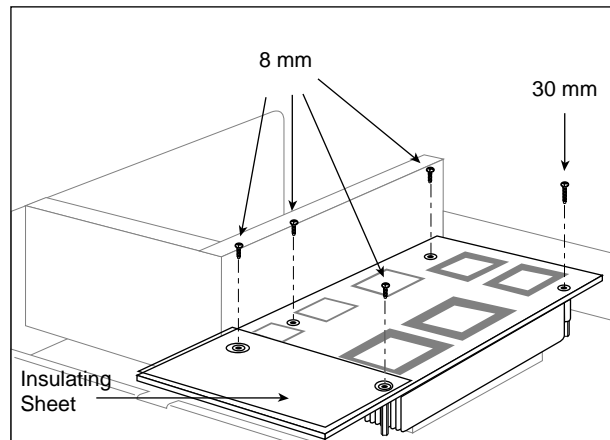

Figure 2-19 Installing the R8000 CPU Module Screws and Insulating Sheet
8. Place the insulating sheet on the R8000 CPU module as indicated in Figure 2-19. Position the sheet along the rear edge of the CPU module, and align it with the rear-most two screw holes.
9. Install the five Phillips screws that attach the R8000 CPU module to the standoffs, as shown in Figure 2-19. Note the location of the long, 30 mm screw. Finger-tighten the screws first, then tighten them snugly using the screwdriver.